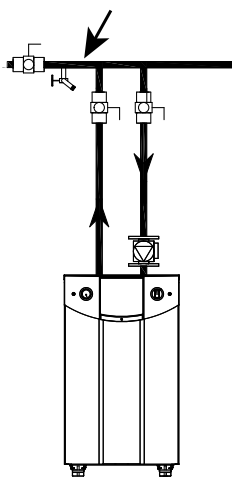

Figure 36. Mounting Location for System Sensor
1. Install the System sensor at the location shown in Figure 36. Connect the System sensor to the System terminals on the controller acting as the Lead Lag Leader (usually the Primary controller on Boiler 1.) Use terminals 3 and 4 on TB6.